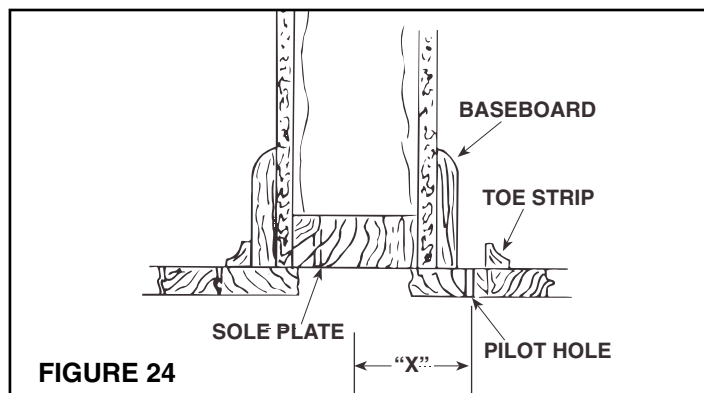

FIGURE 24
1. See Figure 24. A small "Pilot" or "Locating" hole can be drilled behind baseboard toe strip to determine proper location of 2½" diameter tubing hole in sole plate.
3. See Figure 24. Once desired inlet locations have been determined, cut a 2½" hole in soleplate directly in line with proposed inlet location. Check through tubing hole to be sure no obstruction exists.